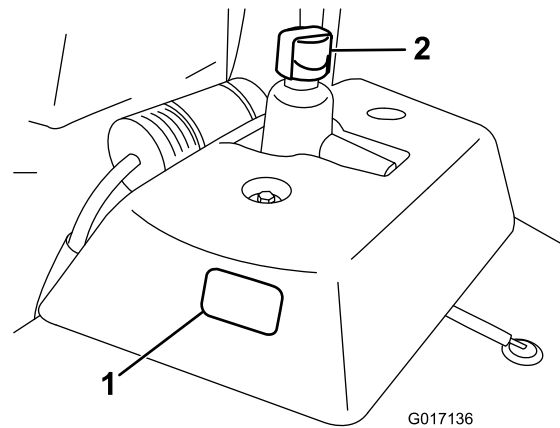

Figure 22
1. Position the machine on a level surface. Make sure the machine has cooled down so the oil is cold. Check the oil level by viewing the sight window on the side of the auxiliary oil tank (Figure 22). If the oil level is between the two marks on the sight window, the oil level is sufficient.